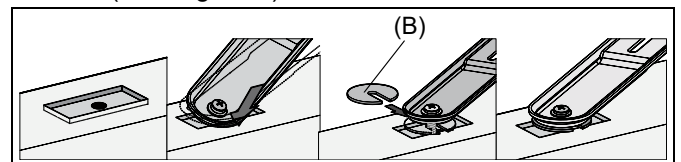

Figure 6
**IMPORTANT ! :** If needed, use fender washers (B) under soundbar bracket (A) to rest flat onto the soundbar surface. (See Figure 6)